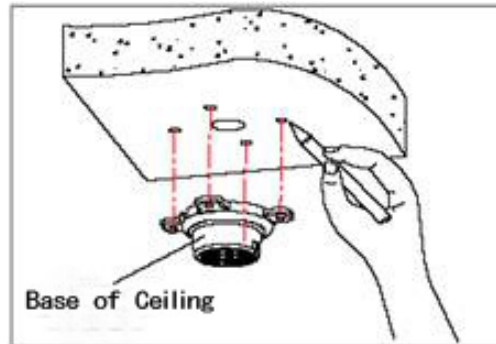

Fig 12
a. As shown in Fig 12, with the installation holes in the base of ceiling as pattern, draw punched locations in the ceiling and punch to install M6 expansion bolt.